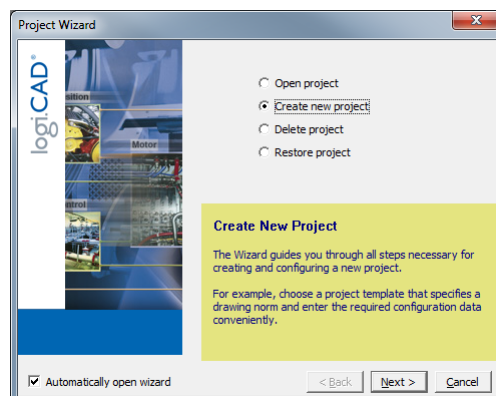

Figure 30: logiCAD project wizard
- The project wizard starts automatically as shown in Figure 30.